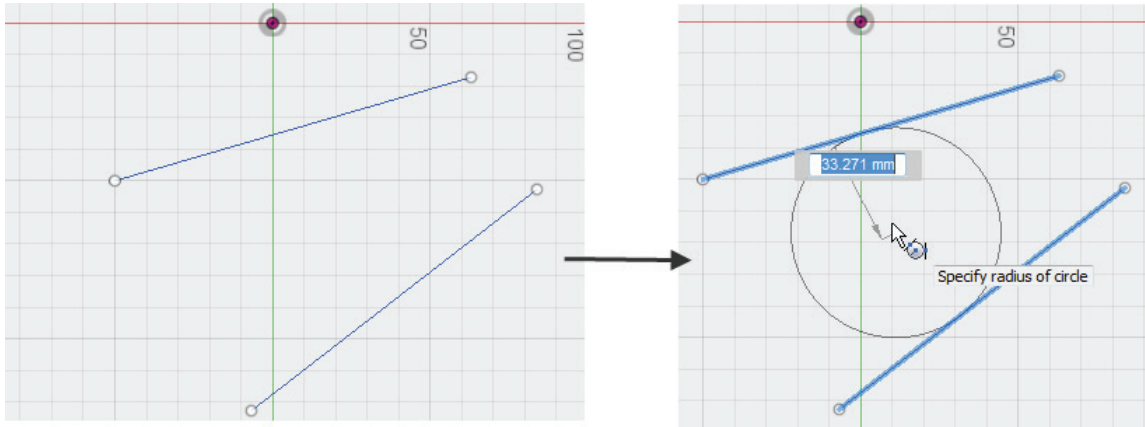

Figure-15. Creation of 2-tangent circle
- Click at desired locations on lines that should be tangent to the circle; refer to Figure-15. Preview of circle will be displayed